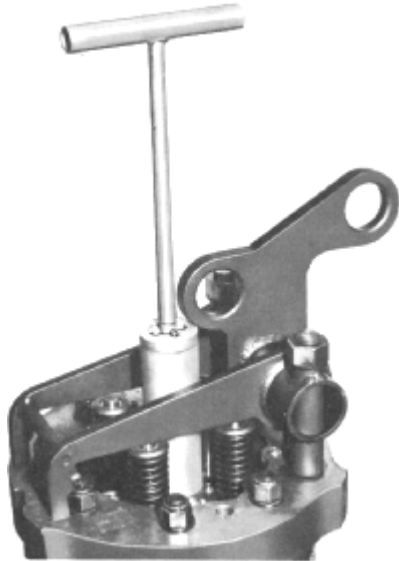

Fig. 5-30 - Piston Holding Tool Application
10. Remove the rag from the injector well and apply the piston holding tool, Fig. 5-30.